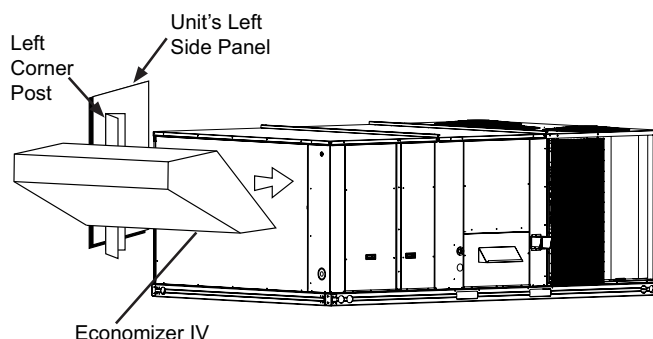
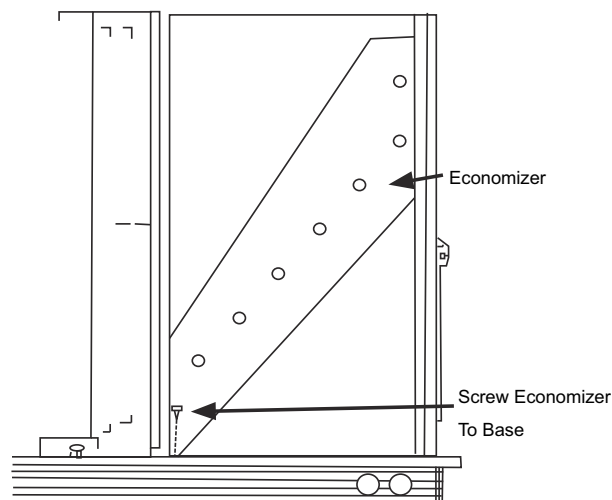

Fig. 3 — Unit Left Side Panel and Corner Post
Fig. 4 — Side View
4. Remove the unit's left side corner post and left side panel from the unit to allow for easy economizer installation. (See Fig. 3.)
5. Install economizer, as shown in Fig. 3, into the return air section of the unit. Be careful not to pinch the wires during installation. The bottom of the economizer will rest on the base of the unit. (See Fig. 4.)
7. Insert provided screw through the bottom left rear of the economizer and into the unit base. (See Fig. 4.) Reinstall the unit's left side panel.